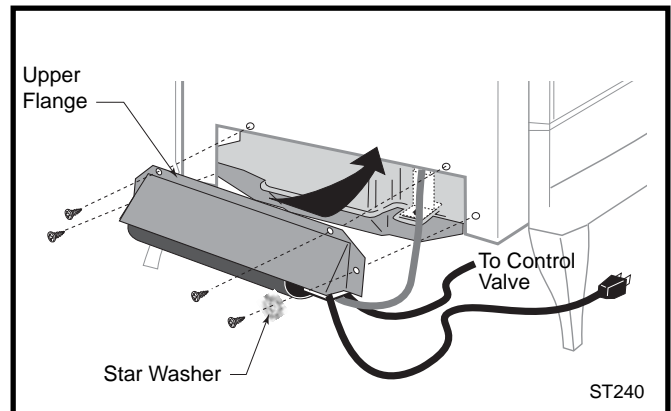

Fig. 6 Place upper flange behind lower edge of shroud.
1. Attach the fan to the rear shroud by engaging the upper flange of the fan skirt under the lower edge of the shroud and secure the skirt with the four screws and one star washer provided. (Fig. 6,7)